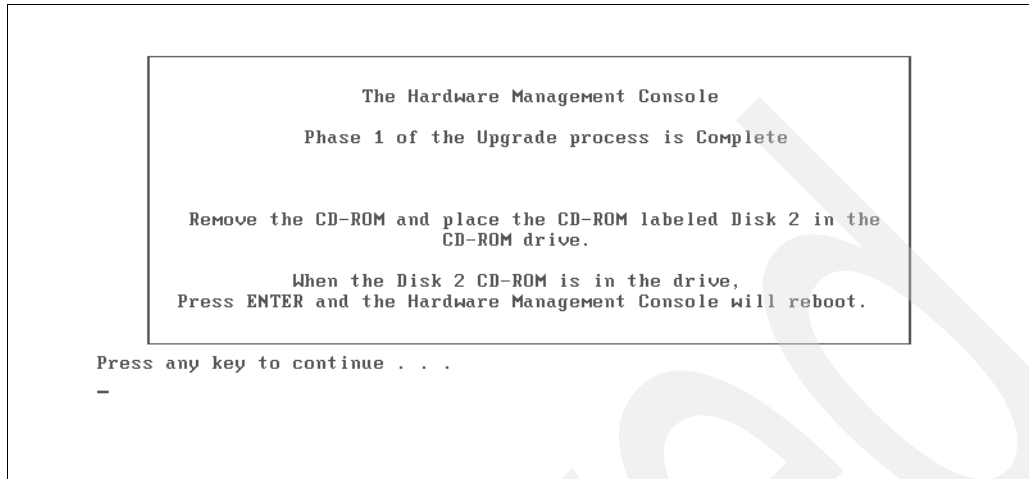

Figure 14-18 HMC upgrade - insert CD 2
7. When the HMC has finished installing from the first CD, you are prompted to insert the second CD (Figure 14-18).